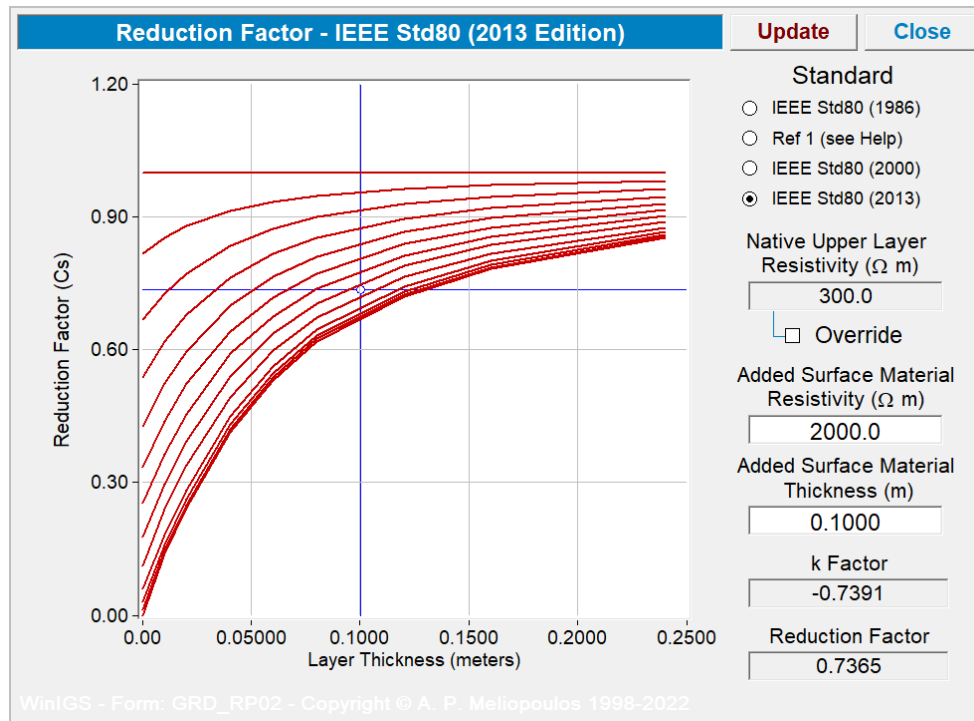

Figure 7: Selection of Surface Material for the Computation of Permissible Touch and Step Voltages
2. The **Resistive Layer Effects** button opens the reduction factor window illustrated in Figure 7. In this window, you can specify the resistivity and thickness of an insulating layer that covers the substation area. These values determine the reduction factor as defined in the IEEE-Std.80, or optionally the IEC-Std.60479. The reduction factor affects the permissible touch and step voltages. Note that these curves differ in various IEEE standard versions, and the radio buttons at the top right of this window allow selection of the IEEE standard to be used. It is recommended to select the latest IEEE version.